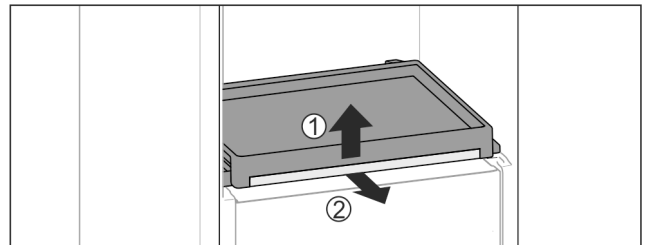

Fig. 39
- ▶ To remove the pull-out board with glass panel: Gently lift the glass panel at the front Fig. 39 (1) and pull out to the front Fig. 39 (2).